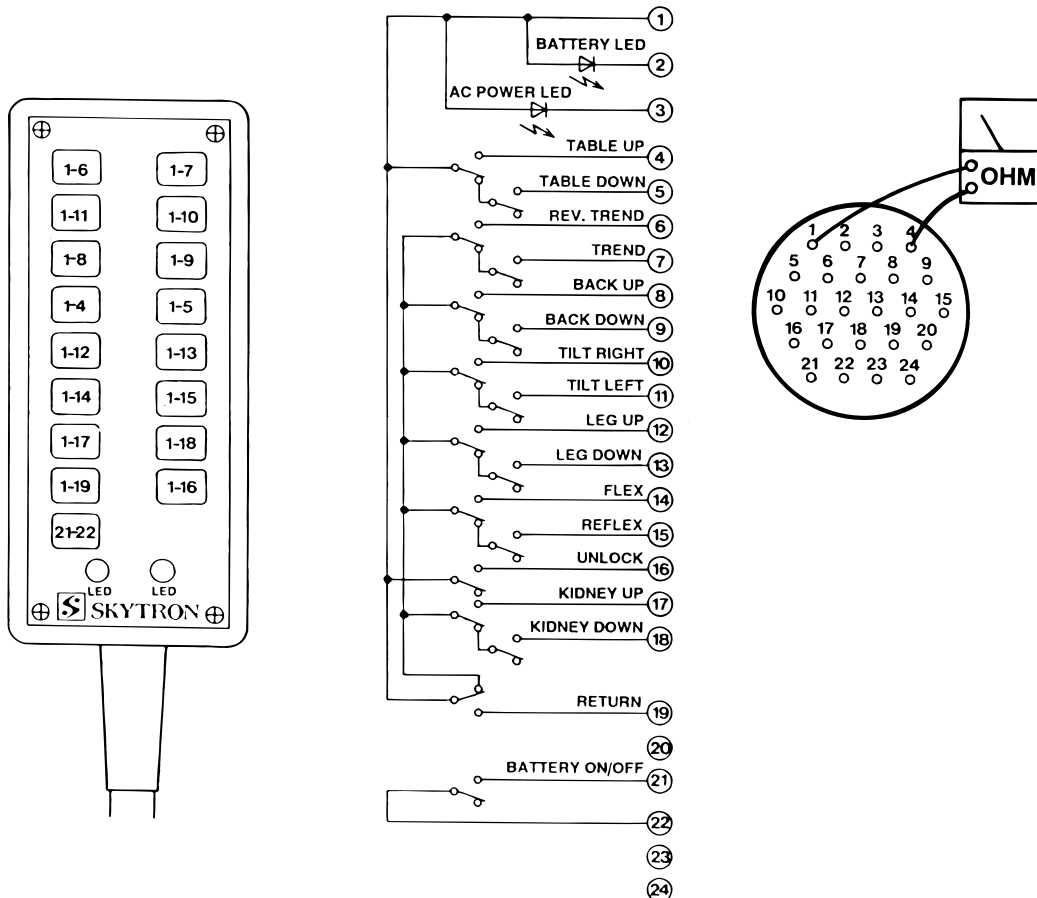

Figure 6-8. Pendant Control Test
2. Use an ohmmeter R x 1 and check the continuity between pin 1 and 4 through 19 while pressing the appropriate button. Also test between pins 21 and 22. See figure 6-8.